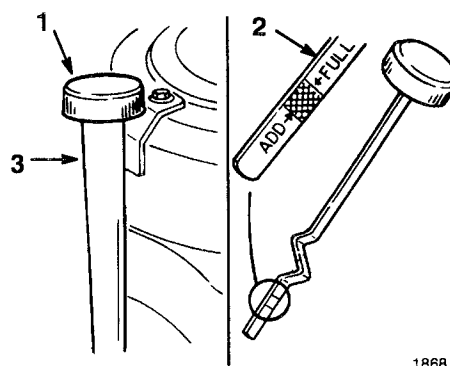

Figure 32
3. Clean around the oil dipstick (Fig. 32) so dirt cannot fall into the filler hole and damage the engine.
4. Unscrew the oil dipstick and wipe the metal end clean (Fig. 32).
5. Screw the oil dipstick fully onto the filler tube (Fig. 32). Unscrew the dipstick again and look at the metal end. If oil level is low, slowly pour only enough oil into the filler tube to raise the level to the "FULL" mark.
6. Slowly pour approximately 80% of the specified amount of oil into the filler tube (Fig. 32). Now check the oil level; refer to Checking Oil Level, page 34, steps 4–5.